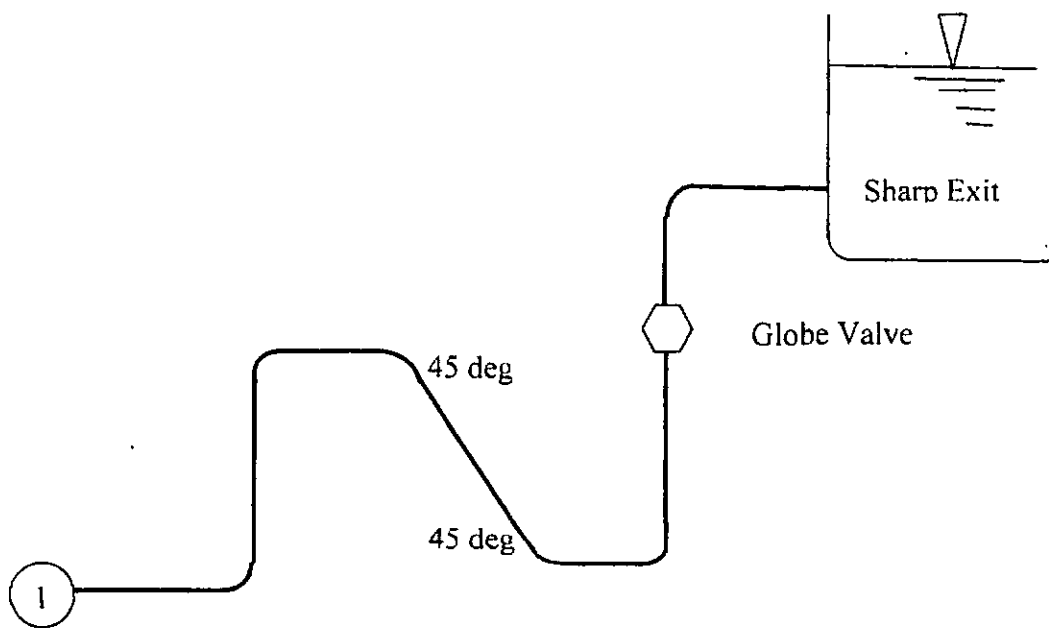

Figure Q9
- The pipe network shown in the Figure Q9 consists of 1,000 m of 50 mm cast iron pipe, two 45-deg and four 90-deg flanged long radius elbows, a fully flanged globe valve and a sharp exit into a reservoir. Loss coefficient for a 45-deg elbow, a 90-deg elbow, globe valve, and exit is 0.2, 0.3, 8.5 and 1 respectively. Friction factor (f) for pipe is 0.0315 (not Darcy-Coefficient of Friction).